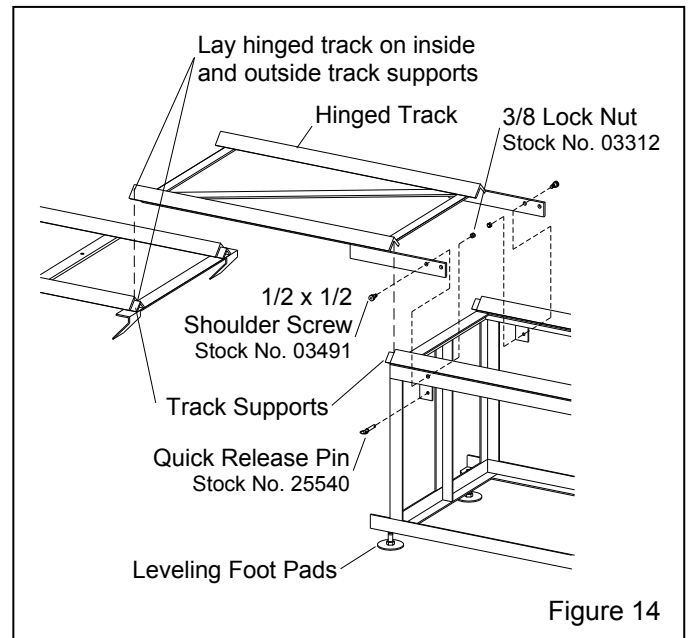

Figure 14
3.5.4 Attach hinged track, refer to Figure 14
3.5.4.1 With the door open, place the hinged track on the inside and outside track supports, as shown in Figure 14. Maneuver the outside track as needed to align the hinge track bolt holes with the outside track bolt holes, while making sure hinge track is fully resting (with no gaps) on the track supports.
3.5.4.4 The quick release pin holds the hinge track when in the raised position, as shown in Figure 14.